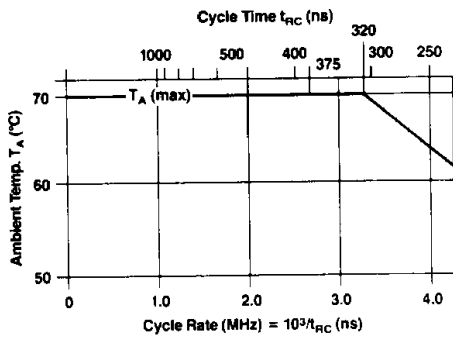
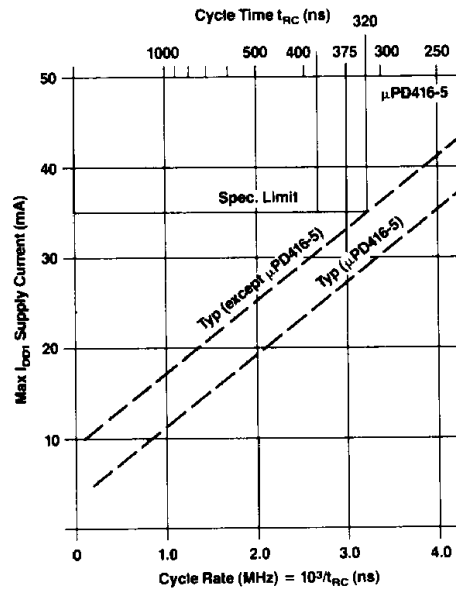

Figure 1. Maximum Ambient Temperature versus Cycle Rate for Extended Frequency Operation
Figure 2. Maximum I_{DD1} versus Cycle Rate for Device Operation at Extended Frequencies
- Notes:** ① T_A is specified here for operation at frequencies to t_{RC} ≥ t_{RC} (min). Operation at higher cycle rates with reduced ambient temperatures and high power dissipation is permissible, provided AC operating parameters are met. See Figure 1 for derating curve.
② All voltages referenced to GND.
③ Output voltage will swing from GND to V_{CC} when activated with no current loading. For purposes of maintaining data in standby mode, V_{CC} may be reduced to GND without affecting refresh operations or data retention. However, the V_{OH} (min) specification is not guaranteed in this mode.
④ I_{DD1}, I_{DD3}, and I_{DD4} depend on cycle rate. See Figures 2, 3 and 4 for I_{DD} limits at other cycle rates.
⑤ I_{CC1} and I_{CC4} depend upon output loading. During readout of high-level data V_{CC} is connected through a low impedance (135Ω typ) to data-out. At all other times I_{CC} consists of leakage currents only.